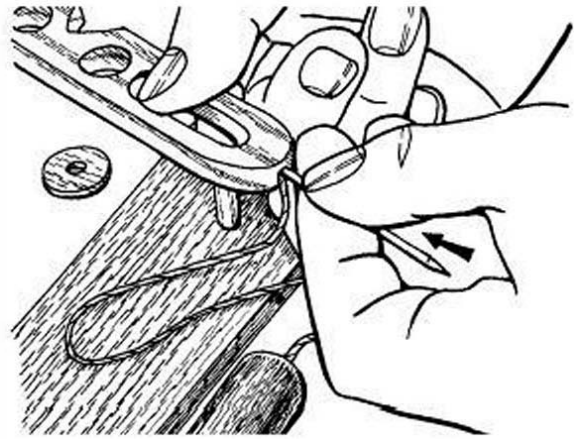

FIGURE 21-13
- 3** Take the notched rule and plug the cord into a hole drilled into the top end with a small length of toothpick (Figure 21-13). Plug the other end of the cord into the counterbalance weight.